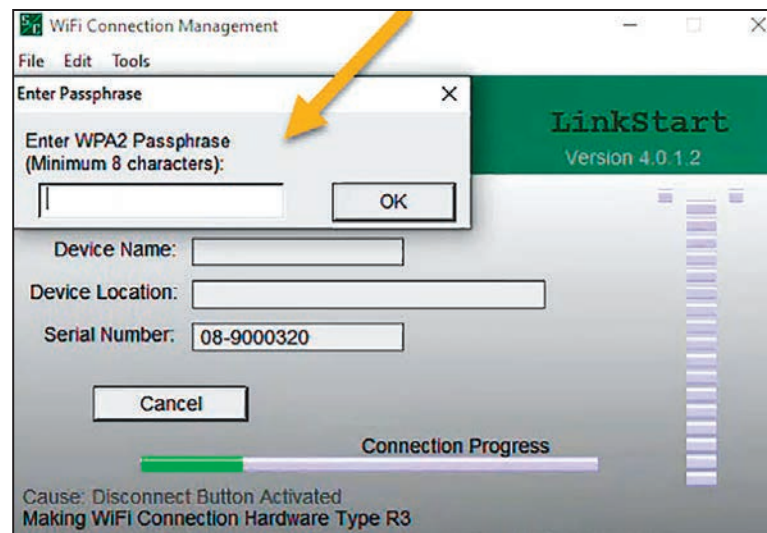

Figure 2. The Enter Passphrase dialog box.
STEP 3. If the Enter Passphrase dialog box opens, enter the configured WPA2-PSK passphrase and click on the **OK** button to continue. See Figure 2 and the “WPA2-PSK Manual Setting” section on page 24 for additional details on WPA2-PSK Manual passphrase configuration.